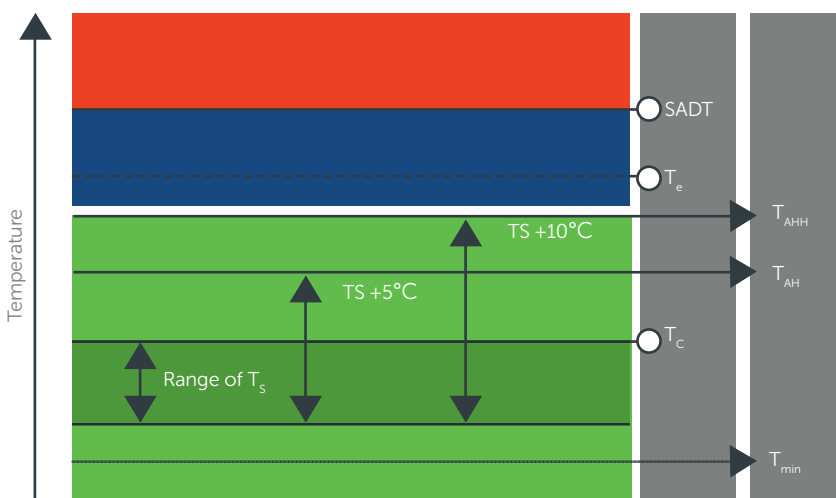

Figure 1: Schematic representation of all temperatures relevant for transport
A schematic representation of all relevant temperatures is given in Figure 1.
- Correct temperature setting of T_s , T_{AH^*} , T_{AHH^*} , T_{min} (see Figure 1)